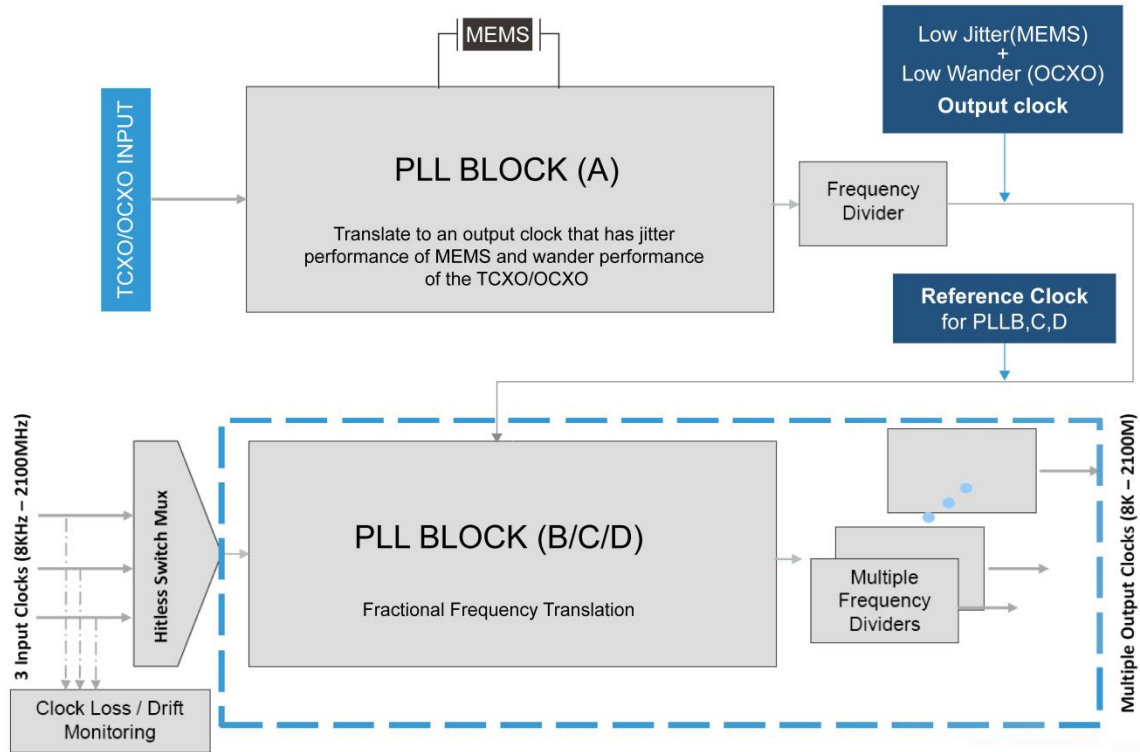

Figure 32. SiT95147 Low Wander Mode implementation diagram
A Low Wander Mode (LWM) is the mode that combines the best jitter from TCXO/OCXO MEMS resonator clocks. This dual loop PLL configuration leverages the lower TCXO/OCXO close-in phase noise (PN) with the lower further out PN of the embedded MEMS resonator. The LWM implementation is shown in Figure 32, in which PLLA generates a low wander reference for the rest of the PLLs.